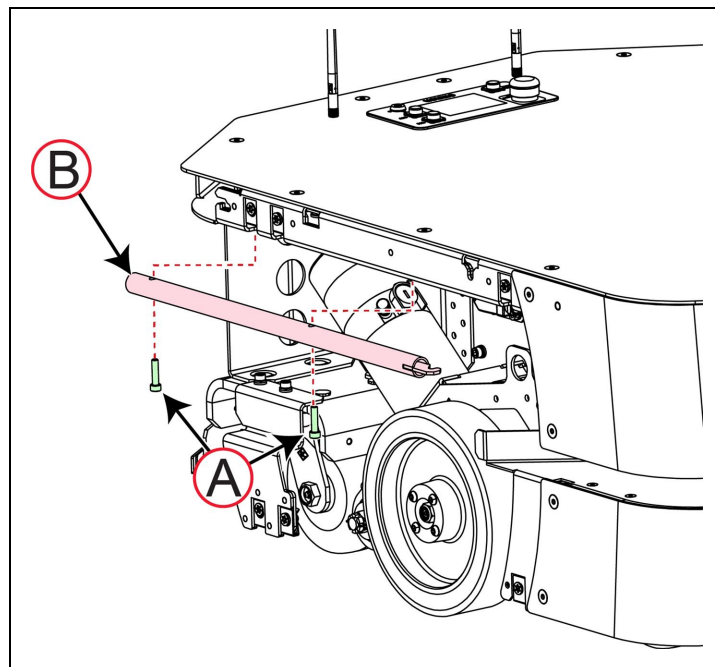

Figure 8-2 Location of the Wheel Lift Tool
A wheel lift tool is provided so that you can lift the drive wheels for maintenance tasks. This tool is located on the right side of the LD-250, underneath the side skin as shown in Figure 8-2.
1. Starting with the left side wheel. Insert the hook end of the tool through the hole in the drive train (B) and into the slot in the chassis (C).
2. Raise up the end of the tool (D) to take the tension off the retaining hook (E)
6. Store the wheel lift tool as shown in Figure 8-2.